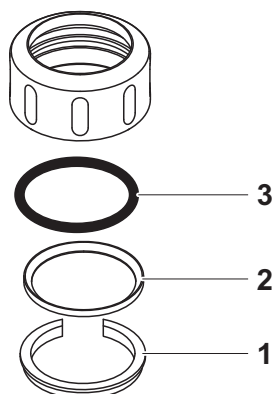

Fig. 6-1 Dismantling the coupling ring
1	Remove the retaining ring (pos. 1 in Fig. 6-1).